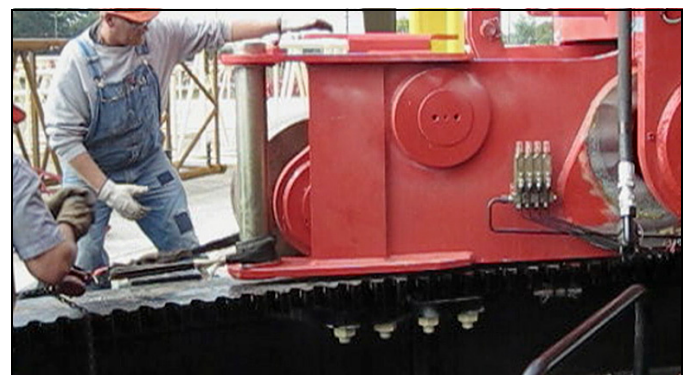

FIGURE 6-24
2. Attach lifting sling to pin and lift equalizer frame enough to allow the equalizer frame to be pulled from the roller carrier (Figure 6-24).